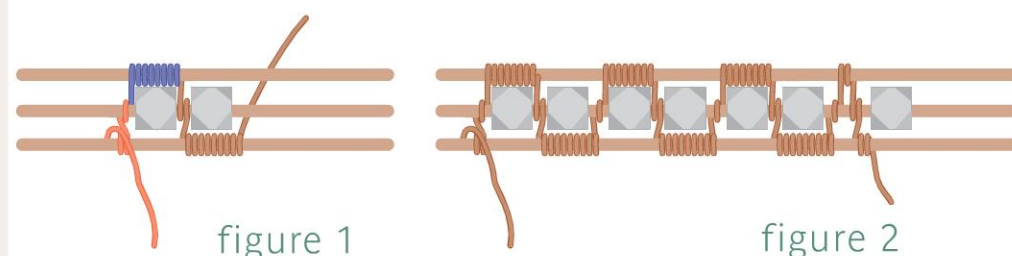

figure 1
- 4 Coil the 26-gauge wire two to three times around Frame Wire 1 at one of the marks made in Step 2 (Figure 1—red wire).
- 6 Hold Frame Wire 3 parallel to Frame Wire 2. Coil Frame Wire 3 the width of the bead (Figure 1—blue wire).
- 8 Weave around Frame Wire 1, then coil Frame Wire 1 the remaining width of the bead added in Step 7 (Figure 1—brown wire).